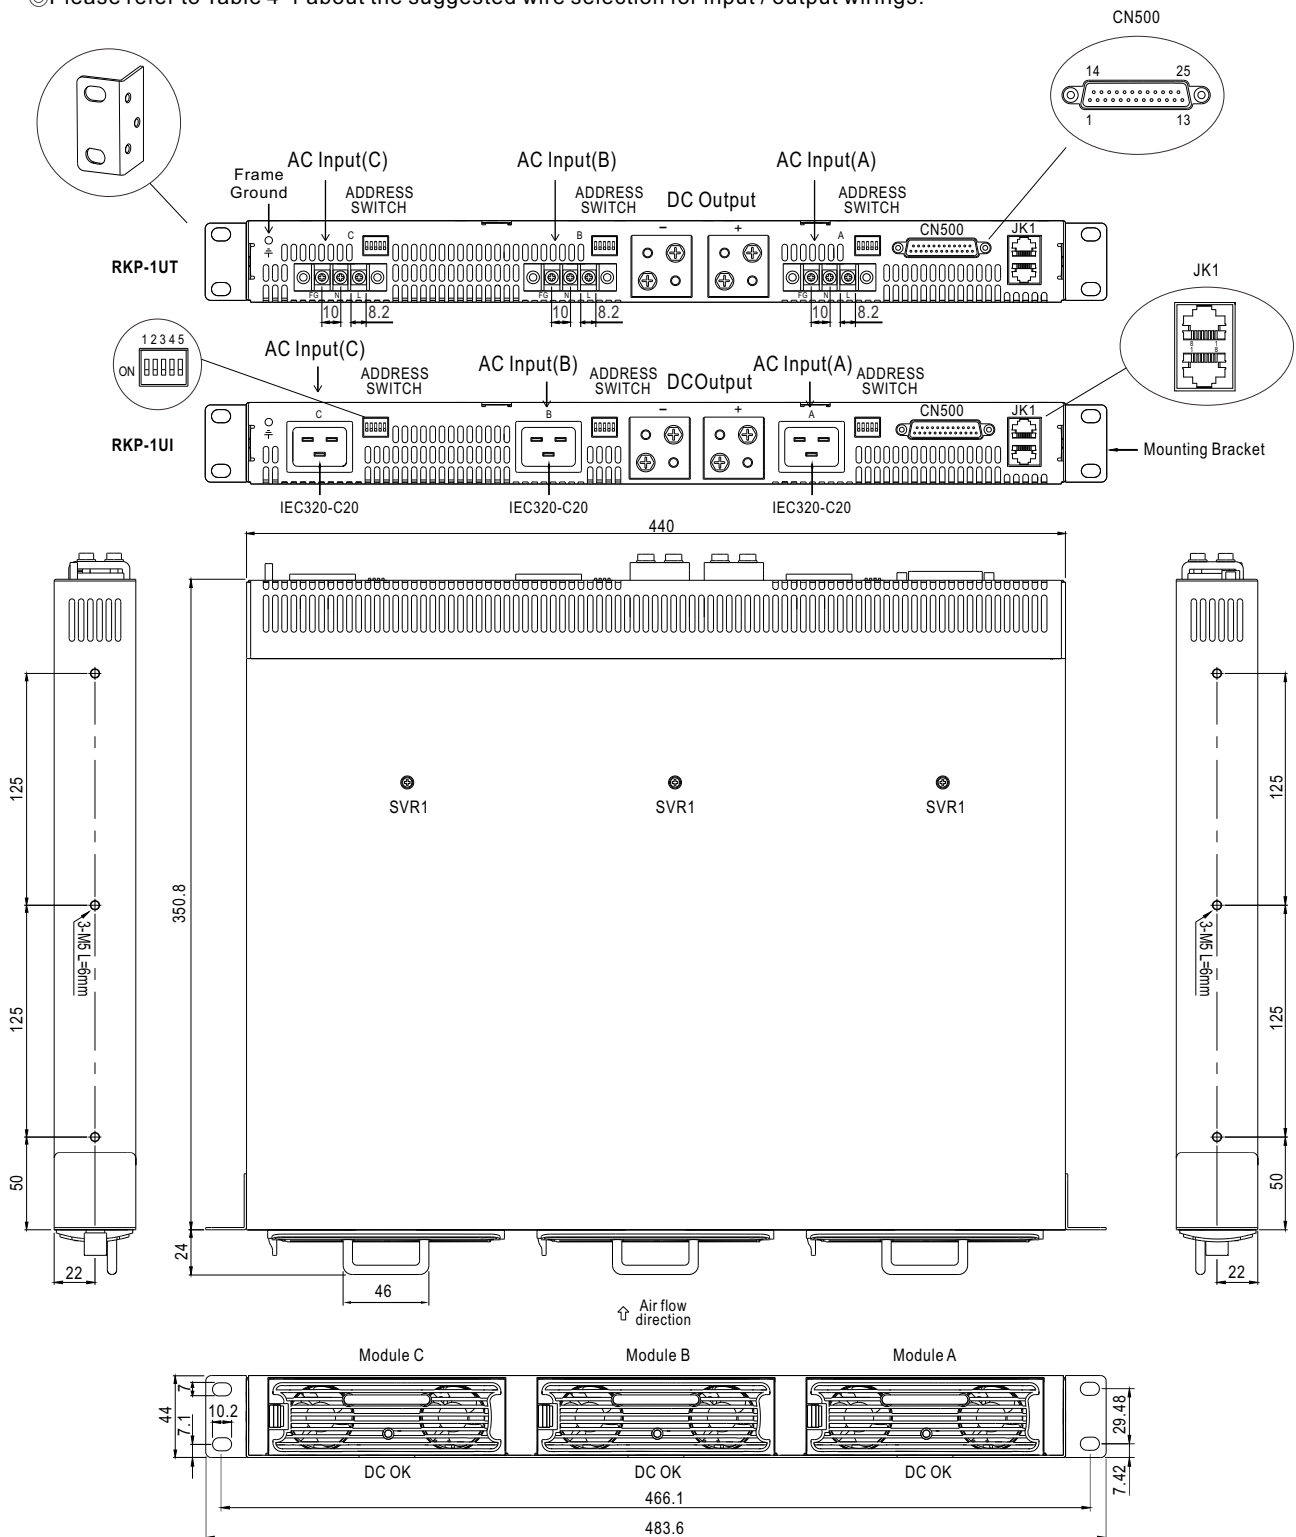

Figure 4-1 System assembly diagram of RCP series
- Insert 1~3 pieces of RCP-2000 (with the same output voltage and current) into the RKP-1U (refer to Figure 4-1).
- Definition of module position: A is on the right, B is in the middle, and C is on the left (refer to Figure 4-1).